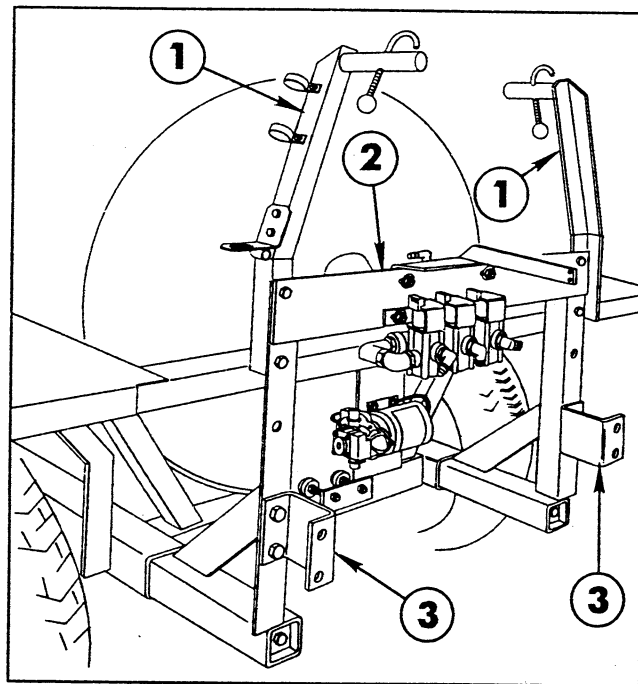

FIG. 19
4. Install the two (2) Boom Hold-In Assemblies and the Manifold Mounting Strap to the top of the Boom Mount uprights as shown in FIG. 19, using four (4) 1/2" x 1-1/4" cap screws, flat washers and hex nuts.